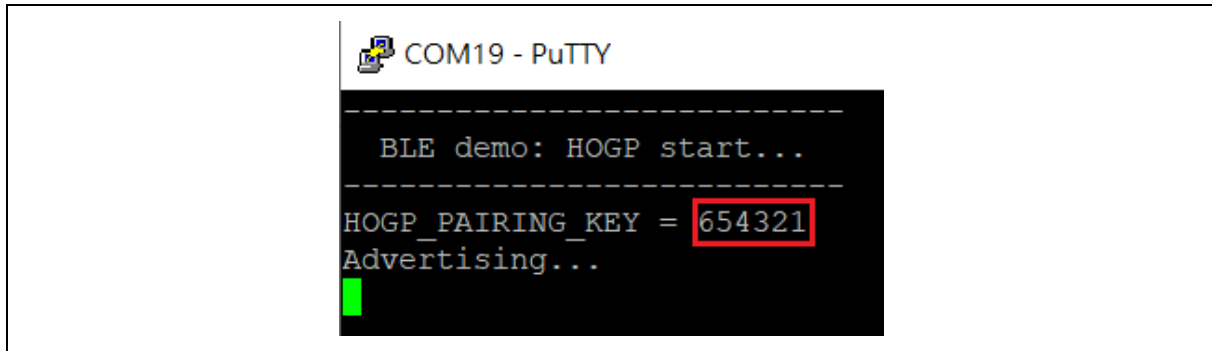

Figure 4-13 Pairing Key in Debug Message
1. Run the demo. In the *BleAppSetting.h* file, if you select the IOCAPABILITY\_SETTING to be DISPLAY\_ONLY, you can see the following message in debug console, as shown in Figure 4-13. The message includes the Bluetooth Pairing Key. In this case, it is “654321”.